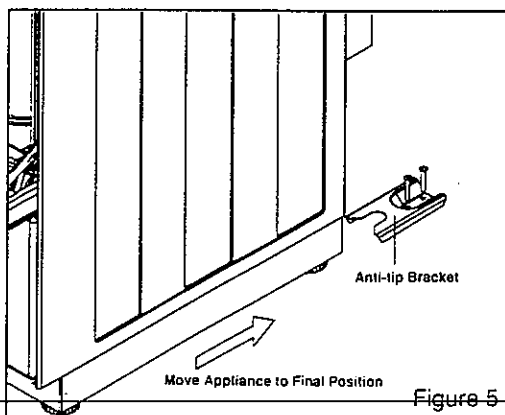

Figure 5
- 5- Slide appliance into position (See Figure 5).